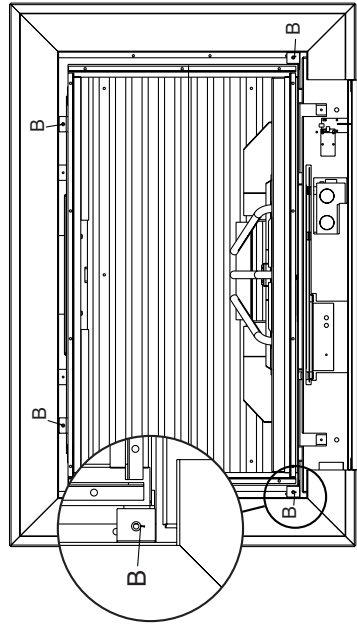

fig. 7
3. Remove the glass by removing the glass clamps C (see fig. 7) for instance with a screwdriver. Careful when removing the glass! Wear gloves! Before placing the glass back, be sure that there are no fingerprints on the glass, it is not possible to remove those prints after you burn the appliance or a while (they will be burnt in).